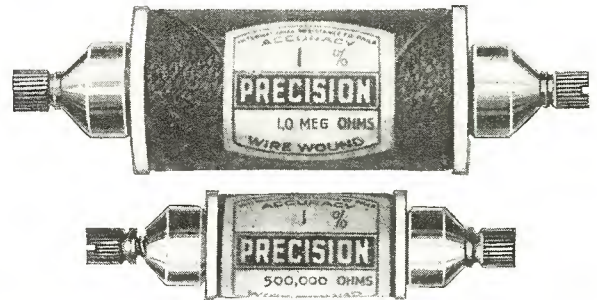

Fig. 7. Here are shown two of the different types of precision units used in the applications mentioned by the author
It is of course essential in all these arrangements that resistors having a high precision be employed in order that the accuracy of the meter be maintained. Figure 7 shows some of the different types of precision units which have been used in such applications.
A way out of this difficulty is shown in Figure 7. The amplifier stage in 7-a comprises two tubes in parallel. Of these tubes (A) is of the high-mu type and B is of the low-mu type. The high-mu tube A yields high amplification but can